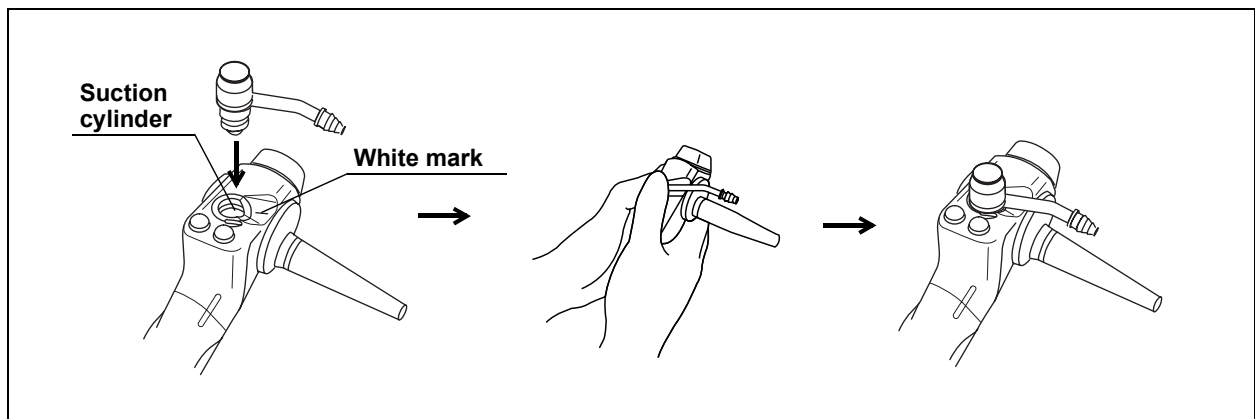

Figure 3.6
1. Place the suction valve into the suction cylinder, aligning the arm of the main body with the white mark on the endoscope (see Figure 3.6).
2. Press down on the suction valve's top surface with your both thumbs until it "clicks" into place (see Figure 3.6).